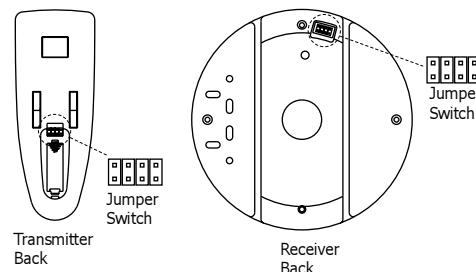

Figure 1 - Jumper Switches
2. **IMPORTANT!** Before installing this control, change the factory default jumper switch settings to your own unique code. Refer to Figure 1. Using small pliers or tweezers, pull out one or more of the three jumper switches by clamping on the small metal strip. Place the jumper switches in the desire spots. Be sure the jumper switch positions of the transmitter and receiver match, or the ceiling fan will not function. Select different combinations of jumper switches to prevent misoperation due to other remote control fans, garage door openers, etc.